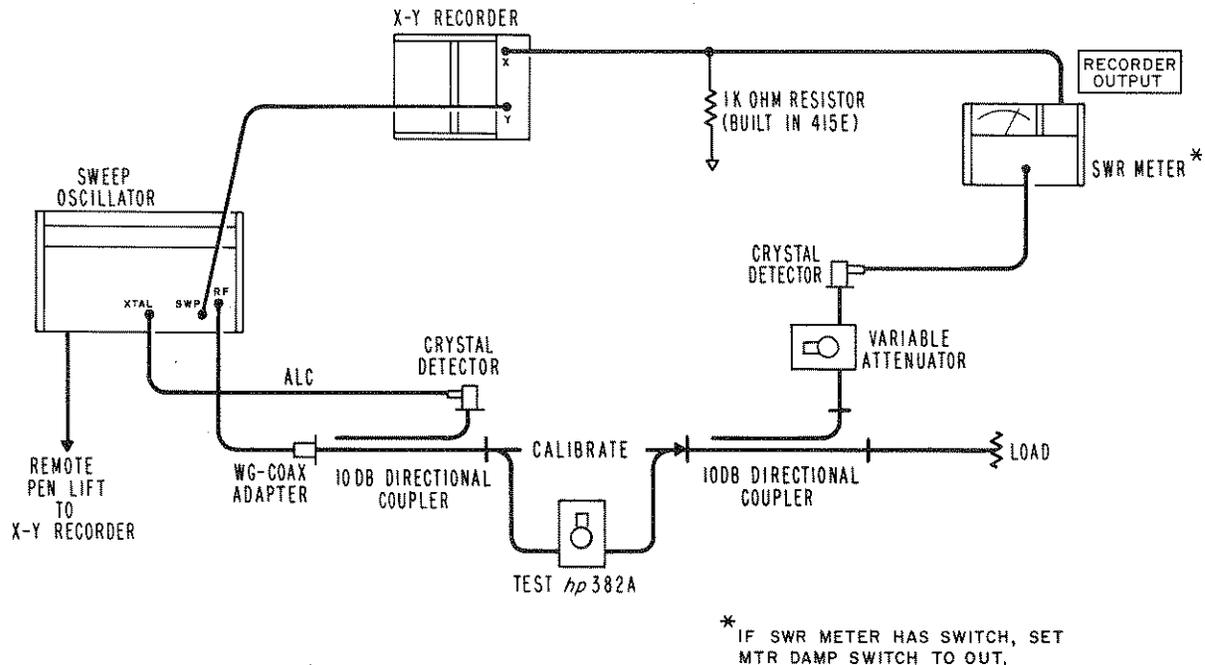

Figure 3. Residual Attenuation Setup
43. This test measures the minimum loss introduced into a system by the use of the Model 382A Variable Attenuator under test. Using the setup of Figure 3 proceed as follows:
- a. Connect instruments as shown in Figure 3.
48. The dial will need resetting if a new dial is installed, if the stops have been forced hard, or if the dial has slipped. To reset the dial connect as in Figure 3 and proceed as follows: